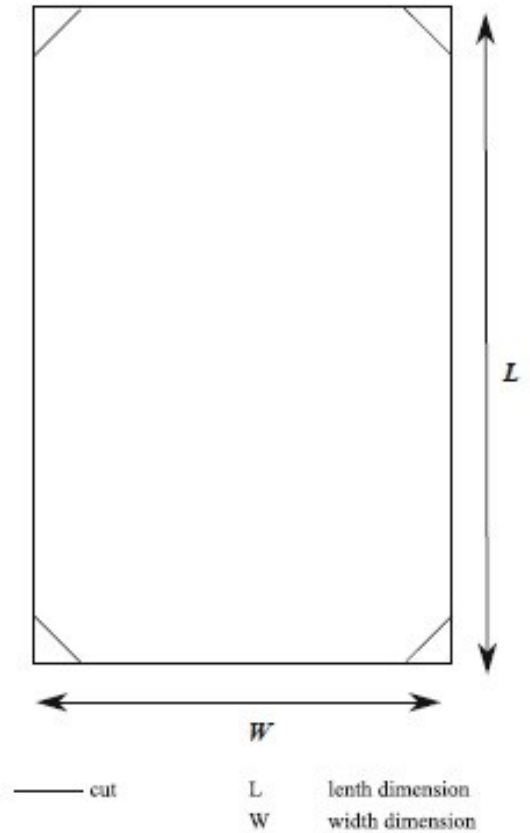

Fig. 1
- 2) Draw the tray according to the diagram (Fig. 1)
- 4) Draw the first tray according to the diagram in Fig. 1 with
- 6) Draw the second tray according to the diagram in Fig. 1 so the flutes of the blueboard are running at right angles.
- 4) Draw the first tray according to the diagram in Fig. 1 with the flutes running lengthwise.
- 6) Draw the second tray according to the diagram in Fig. 1 with the flutes running widthwise.
- 8) Draw the third tray according to the diagram in Fig. 1 with the flutes running lengthwise.